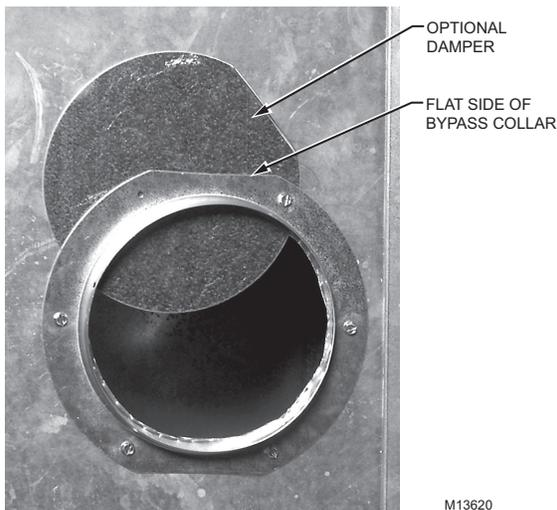

Fig. 8. Mounting Bypass Collar (Optional Damper shown).
1. Position the 6 in. Bypass Collar on the duct so that all six mounting holes are over the duct. (If you are installing the optional damper, it is recommended that the flat side of the Bypass Collar face up.) See Fig. 8.